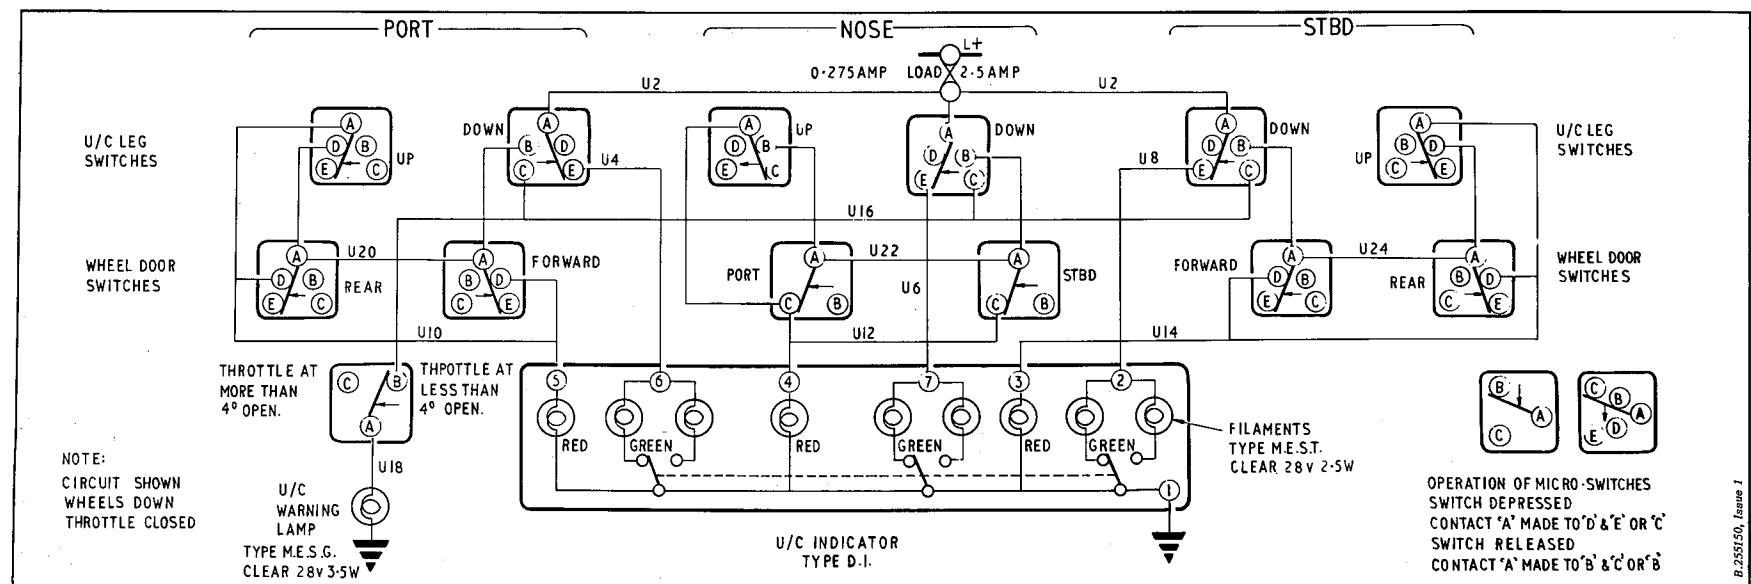

Fig.1 Alighting gear indicator and warning lamp (theoretical)
3. The theoretical circuit diagram (fig.1 of this group) shows conditions when the aircraft is standing on its alighting gear with the throttle closed. The green indicator lamps are all illuminated as both the main undercarriage legs and the nose wheel leg 'down' switches are making contacts A-E to supply these lamps. The throttle microswitch is making contacts A-B, but the alighting gear warning lamp is not illuminated as the supply is broken at contacts C of the 'down' microswitches. The wheel door and main wheel leg 'up' microswitches are all making contacts A-D while the nose wheel leg 'up' micro-